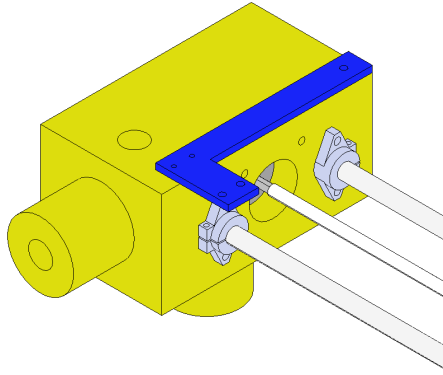

Figure 17: *Y-Axis extender* attached to the left Y-Axis assembly of the GPR-20 robot.
11. Identify the two (2) holes located in the top of the *Y-Axis left driver*. These holes are intended for M3 inserts. Heat two (2) M3 inserts with a heat gun or a soldering iron and place them into their corresponding holes. Allow for the inserts to cool down before proceeding. Attach the *Y-Axis extender* using two (2) M3 screws. The *Y-Axis extender* itself has three (3) additional holes for attaching the endstop sensor and the drag chain. These holes require M3 inserts to work. Place the inserts in the three (3) holes after heating them with a heat gun or a soldering iron. The assembly is shown on figure 17.